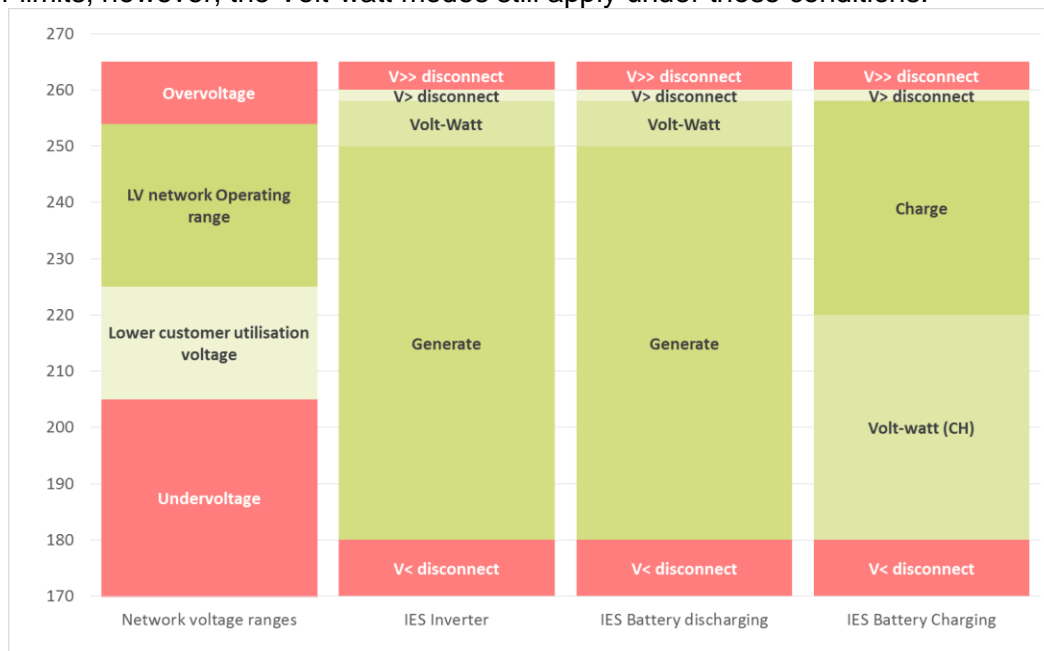

Figure 1 Voltage requirements for different modes of operation of IES with Batteries2
- Figure 1 Shows the alignment of modes of operation for IES and Battery IES with voltage range on Western Power network